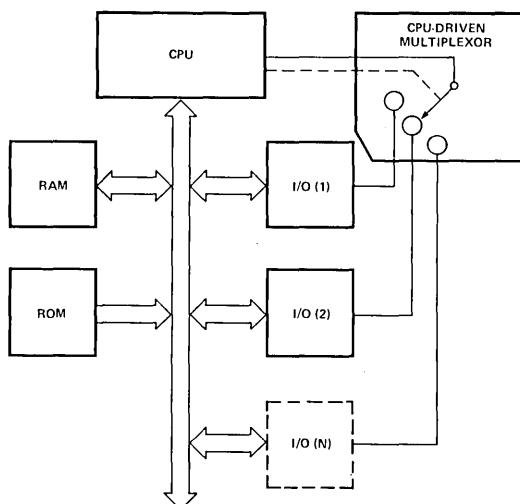

Figure 1. Polled Method
- Initialization Command Words (ICWs):** Before normal operation can begin, each 8259 in the system must be brought to a starting point — by a sequence of 2 or 3 bytes timed by WR pulses. This sequence is described in Figure 1.